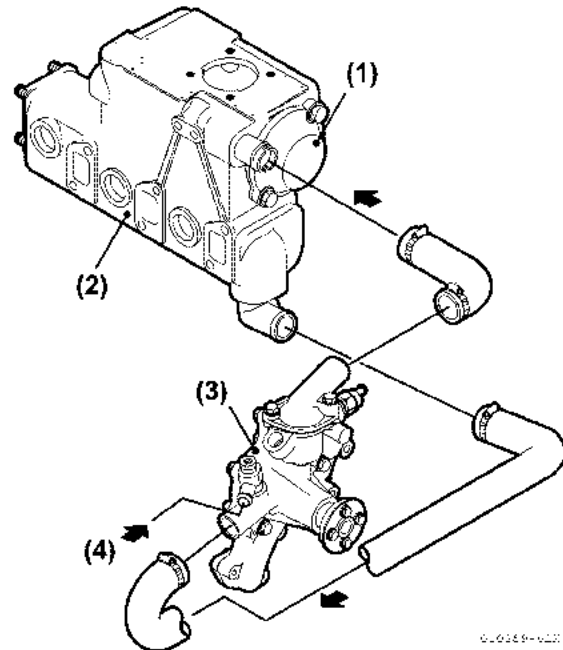

Figure 5-22
20. Remove the coolant pipe (seawater / freshwater) (Figure 5-22) through (Figure 5-25):